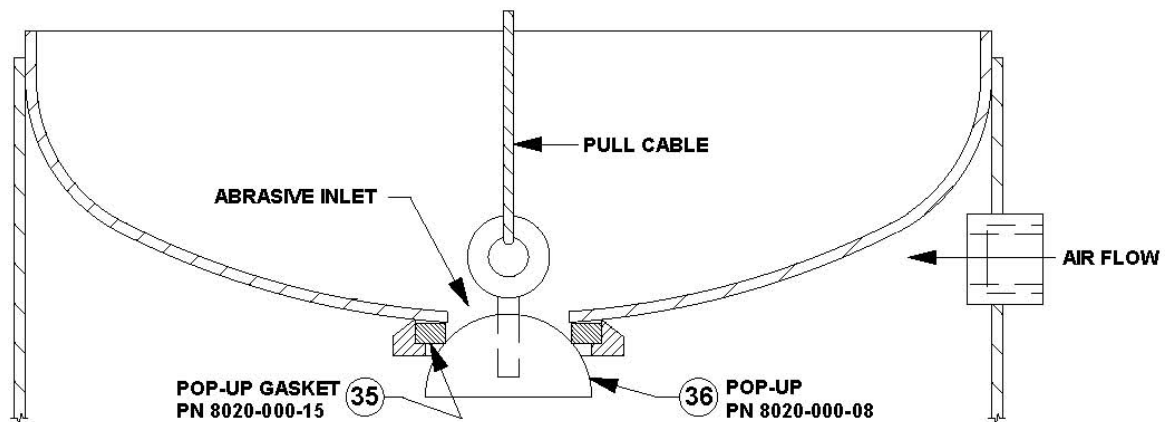

Figure 7.1 – Popup Assembly Detail
- 7.2.8. Pull the popup head (#36) up against the gasket (#35) and securely hold the popup in position by maintaining a tight pull on the cable. See Figure 7.1